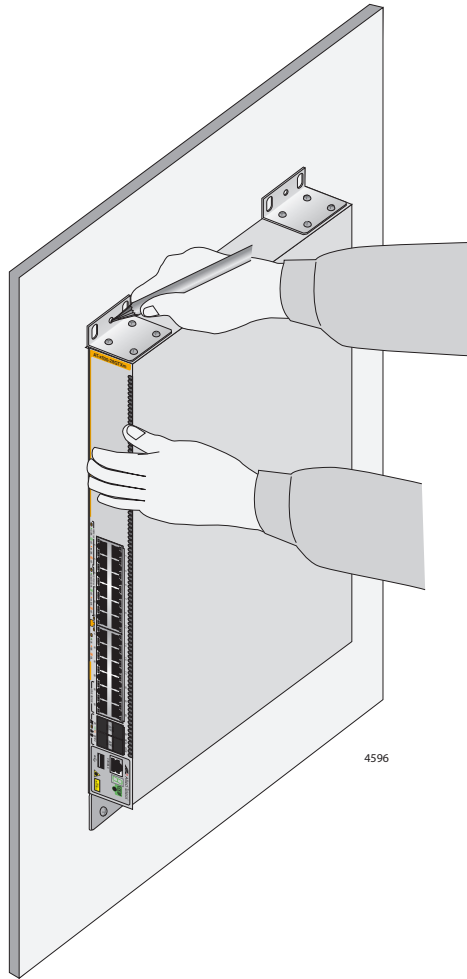

Figure 39. Marking the Locations of the Bracket Holes on a Concrete Wall
3. After attaching the brackets, have another person hold the switch on the concrete wall at the selected location for the device while you use a pencil or pen to mark the wall with the locations of the screw holes in the brackets (one screw per bracket). Refer to Figure 39 on page 94.